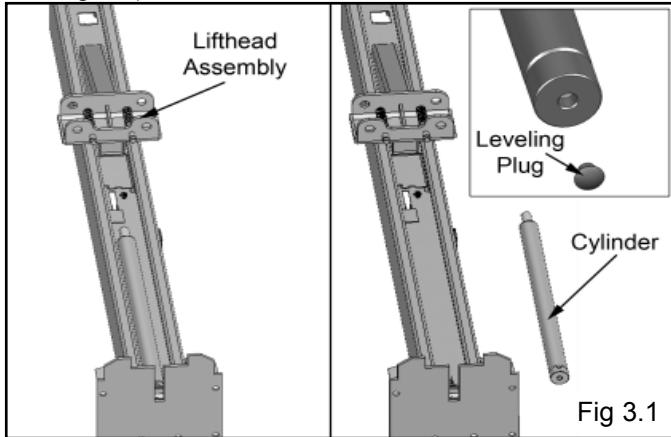

Fig 3.1
1. With the Column laying on the Floor, slide the Lift Head up towards the top of the Column. Remove the Cylinder from Column. Keep tract of the Cylinder Leveling Plug in the base of the Cylinder and insure that it gets reinstalled. (See Fig 3.1)